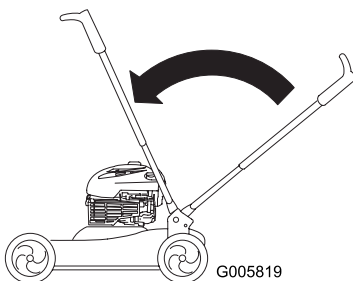

Figure 23
3. Raise the handle to the vertical position (Figure 23).